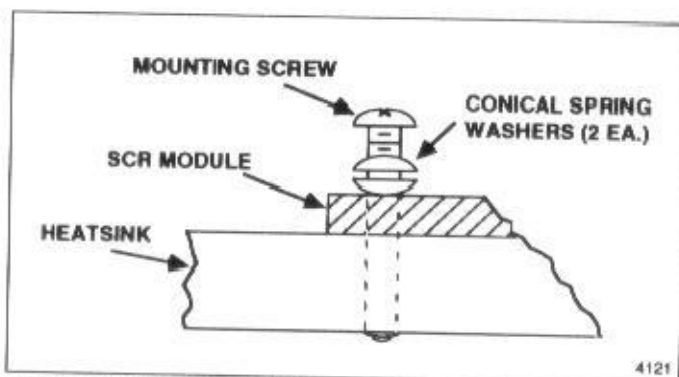

Figure 5-13. SCR module assembly mounting details. Be sure to install the two conical spring washers in series beneath mounting screw head as shown.
- A. Be sure to install the conical spring washers as shown in figure 5-13.